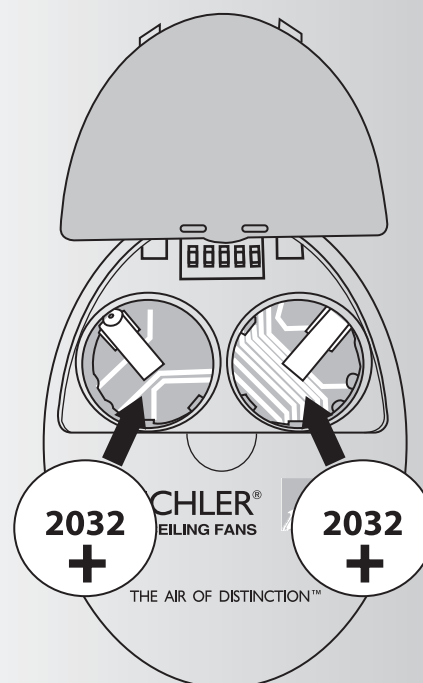

Fig. 18
Open the back of the Transmitter (figure 18)
2. Insert both batteries and make sure they are seated correctly in each recess with the Positive + sign facing up. Replace the battery cover. (Figure 18)